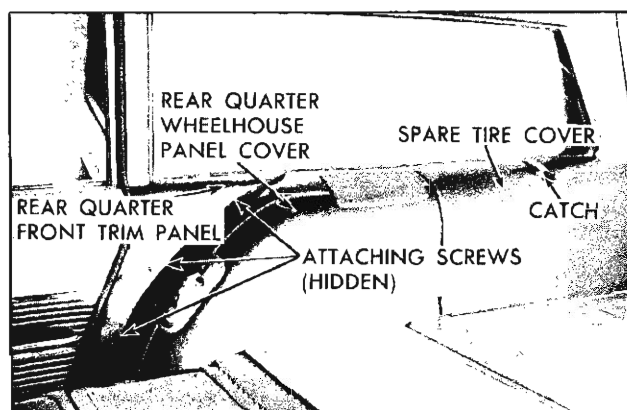

Fig. 77—Rear Quarter Trim Assembly—Right Side
2. Remove attaching screw securing trim panel to quarter inner panel and spare tire cover support (fig. 77).